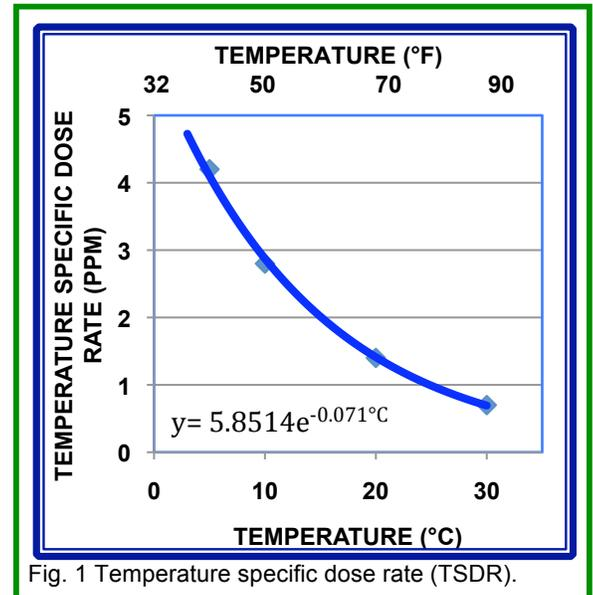

Fig. 1 Temperature specific dose rate (TSDR).
1. Determine the temperature specific dose rate (TSDR) from Figure 1.